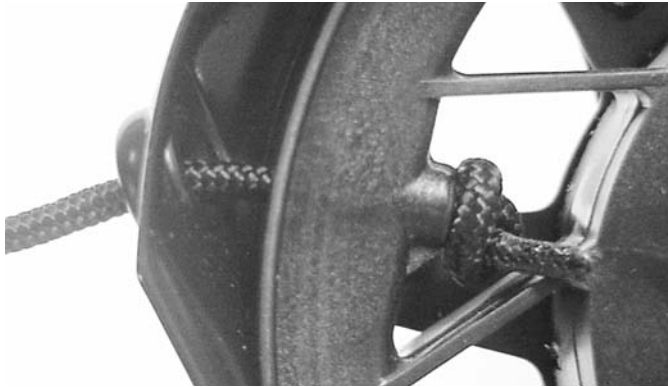

Fig. 57
4. Insert rope as shown in figure 57 and tie a knot.